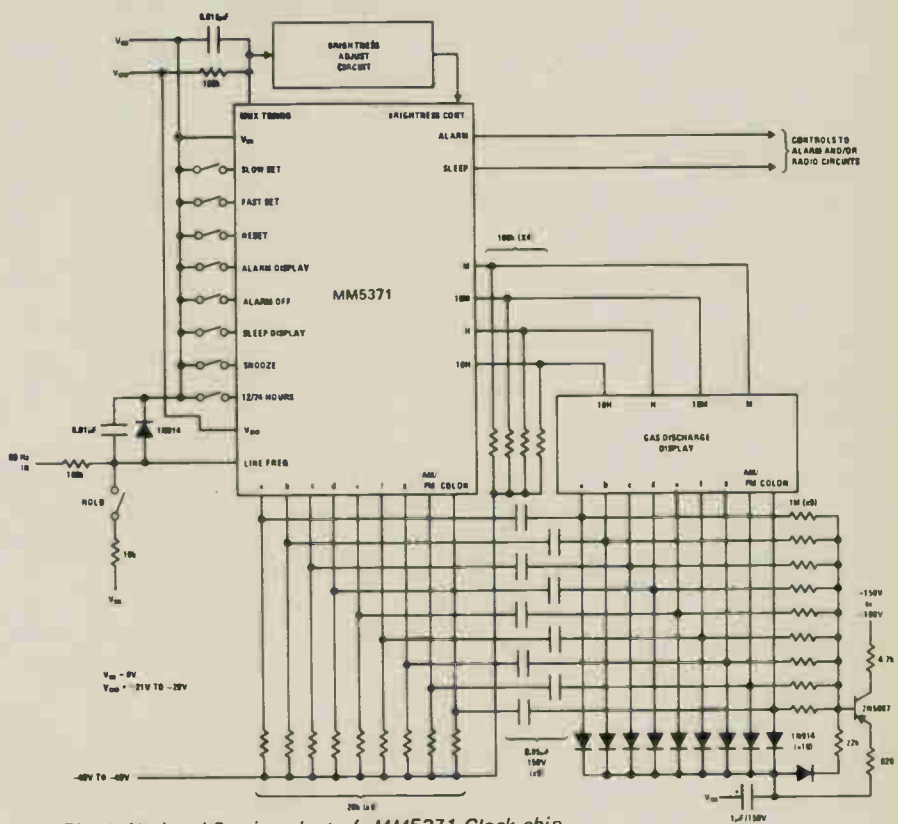

Fig. 1. National Semiconductor's MM5371 Clock chip.
MM5371 digital alarm clock chip. Three display modes are incorporated (time, alarm and sleep) with displays in 12 or 24 hour modes only at 50Hz input, the MM5370 is only for 60Hz input. The advantage of this chip is that it interfaces very simply with high-voltage 7 segment displays such as the Sperry SP151. To facilitate the interface to the SP151 the MM5371 includes AM/PM indication and a colon drive outputs. Power supply requirements are 8-29V unregulated d.c. at 5mA, additional supplies at 40-50V and 150-190V are required for the SP151. The simplicity of the circuitry involved is shown in fig. 1. Data on the MM5371 (2), devices (3). Data and devices on the SP151 (4).